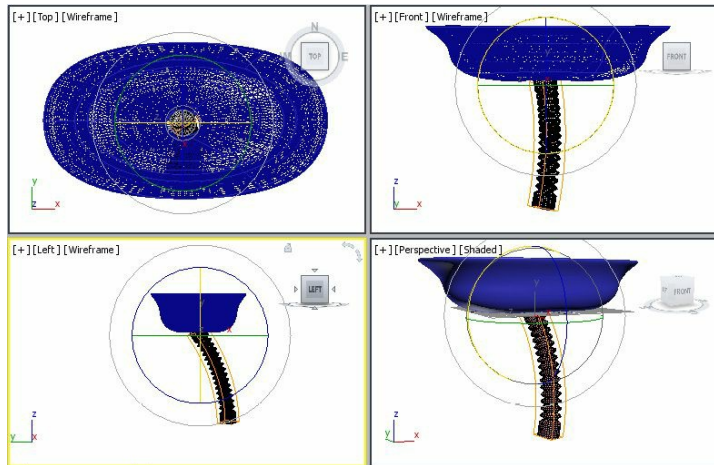

Figure 10-70 The duct geometry rotated and aligned in viewports
14. Rotate *duct* in the Top viewport and align it in viewports, as shown in Figure 10-70.